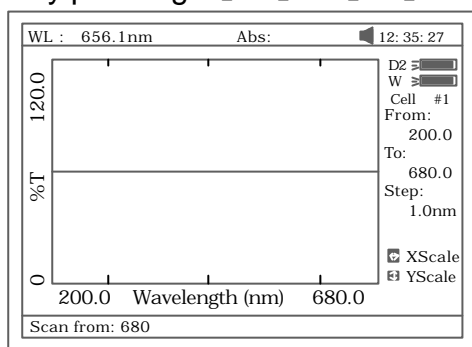

Fig 42
1. Press **【F1】** to setup, input the start wavelength, and end wavelength by pressing the numeric keypad (Fig 42). Note: The UV-2802 scans from high to low wavelength. Browse and select the items of scan step and scan speed by pressing **【↑】** or **【↓】**.